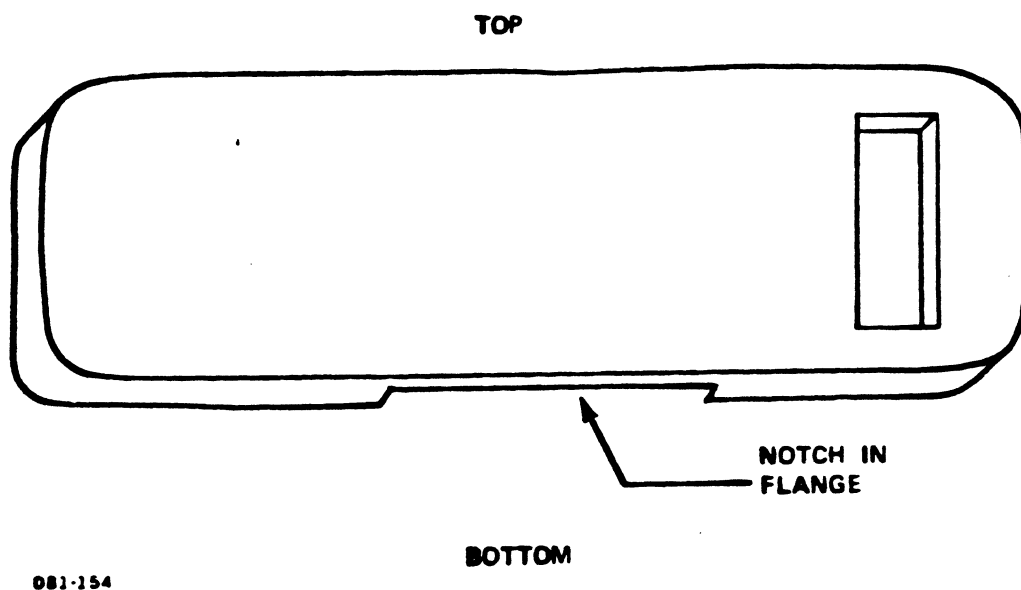

Figure 2-8. Notched Rear Panel Flange
4. Snap the rear panel back into place making sure that the cables extend through the notched flange at the lower edge of the rear panel (see Figure 2-8).